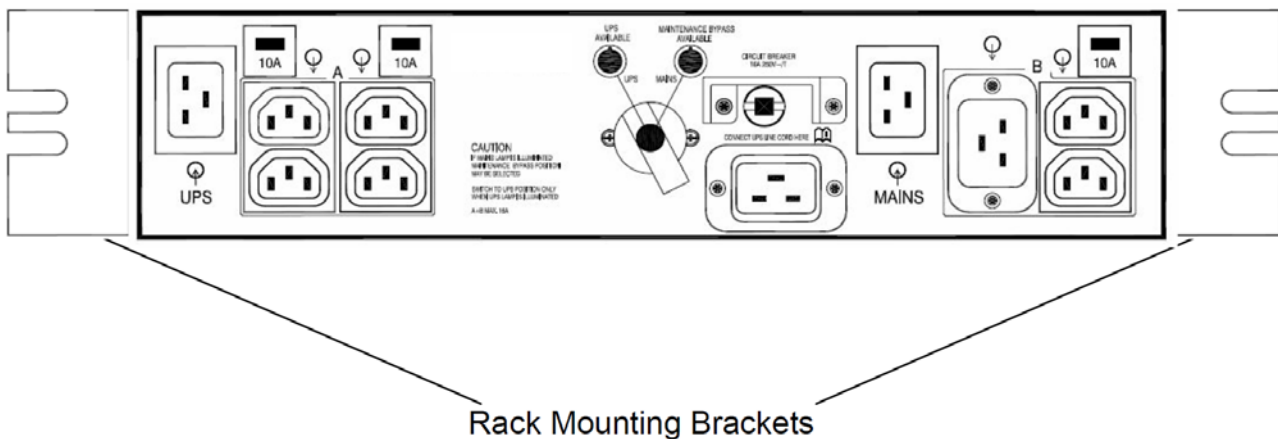

Figure 4 PDU 16 with rack mounting brackets
1. Rack mount installation of the PDU is possible with the use of the rack mounting brackets (shipped with the PDU) See Figure 4.